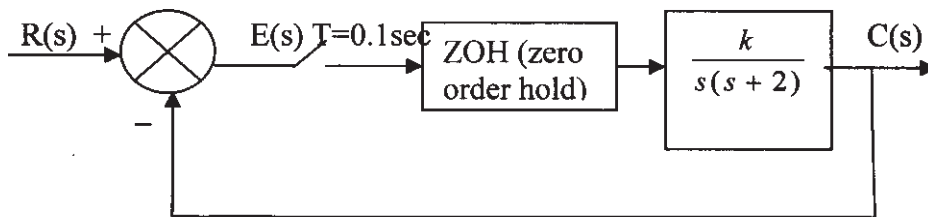

Fig.1
**Q1)** Find the range of K for the stability of the system shown in fig.1 **[16]**